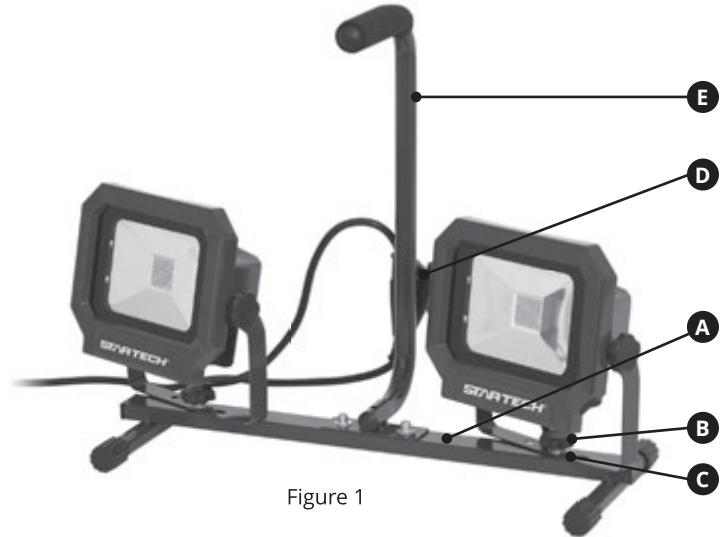
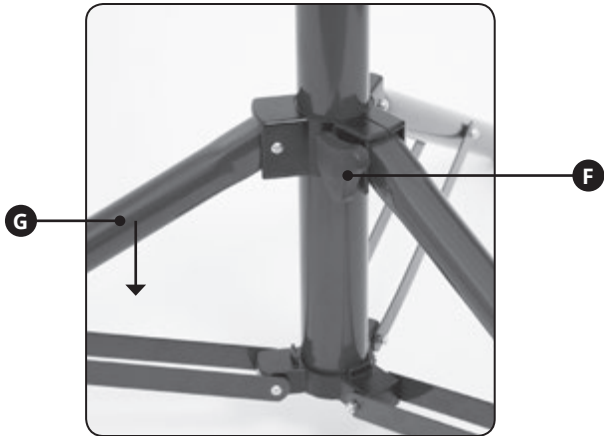
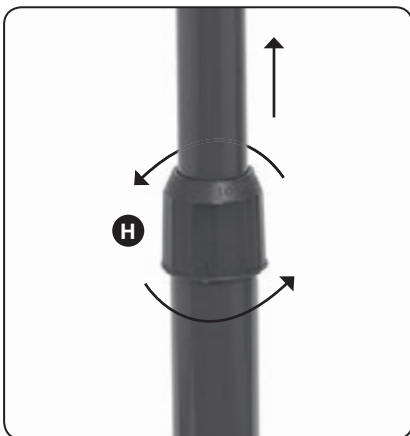

Figure 1
Figure 2
Figure 3
1. Attach carrying handle (E) to base (A) with bolts
3. Attach lights using 2 lock knobs (B) inserted through holes in brackets (C) into threaded holes in base (see figure 1). Fasten with flat washers and lock washers.
4. Use long knob (D) to fasten power cord to handle through hole in Y connection.
5. Loosen tripod lock knob (F, figure 2).
6. Push down leg connector (G) until legs are fully extended, then tighten knob (F).
7. Adjust height by loosening twist collars (H, figure 3) and raising centre poles. Tighten both collars firmly when desired height is reached.